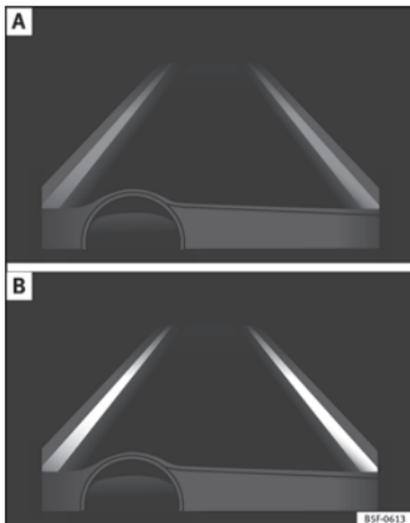

Fig. 216 On the instrument panel display: Indication on the Lane Assist system display (example 1).
- The system is active, but not available, either because the minimum speed has not been reached or because the lane lines are not recognised »» Fig. 216 A.
- The system is active and available, both lane lines are recognised. The steering angle is not being corrected at this moment »» Fig. 216 B.